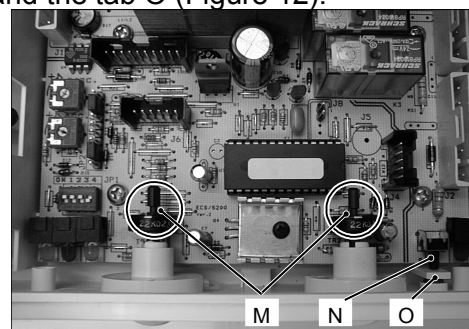

Figure 12
- 8) Insert the spindles in the control panel knobs until the notch M (Figure 12) reaches the potentiometer edge. It is not necessary to force them in the knob.
- 9) While tightening the screws that fix the Control p.c.b. on the control panel, keep the p.c.b. towards the control panel fascia making sure of the contact between the boiler reset button N and the tab O (Figure 12).